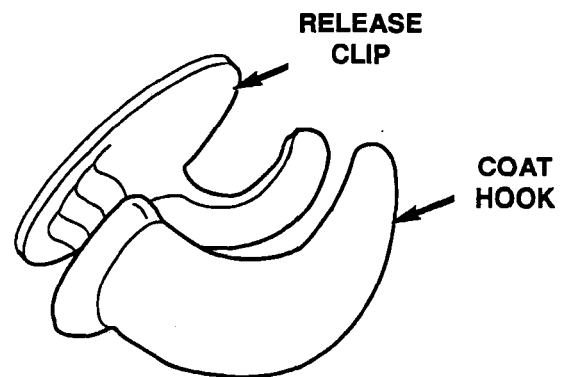

Figure 9
38. Using a trim stick, disengage the release clip and remove the right rear coat hook from the headliner (Figure 9).
39. Using a trim stick, disengage the release clip and remove the left rear coat hook from the headliner (Figure 9).
50. Install the left coat hook onto the headliner and engage the release clip (Figure 9).
51. Install the right coat hook onto the headliner and engage the release clip (Figure 9).